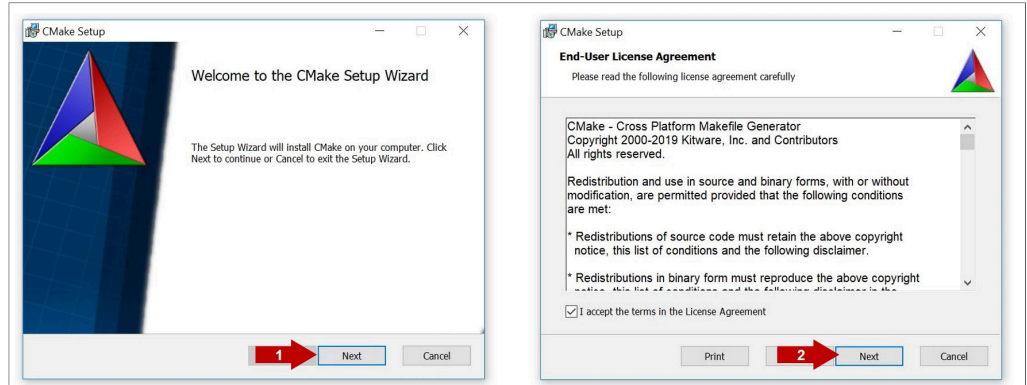

Figure 75. CMake installation wizard
- 5. The CMake installation wizard will open. Click (1) **Next** and (2) **accept** the End-User License Agreement as shown in Figure 75: